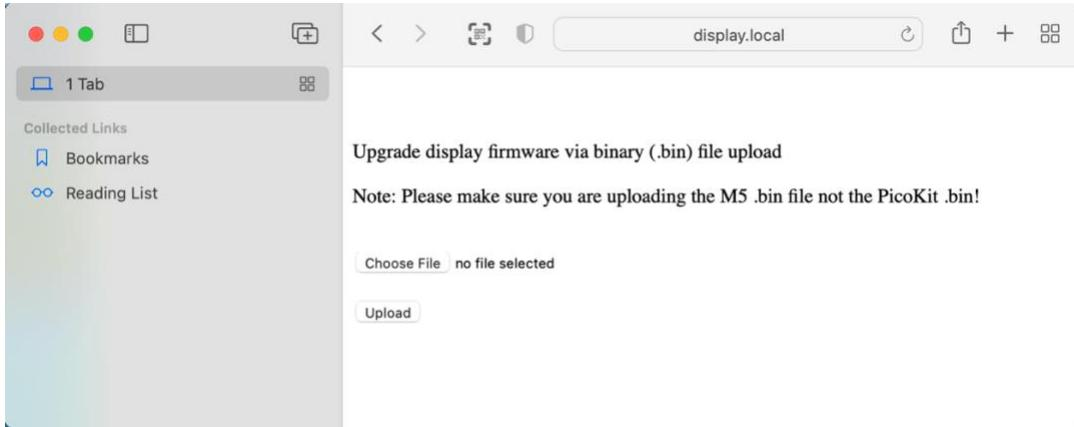
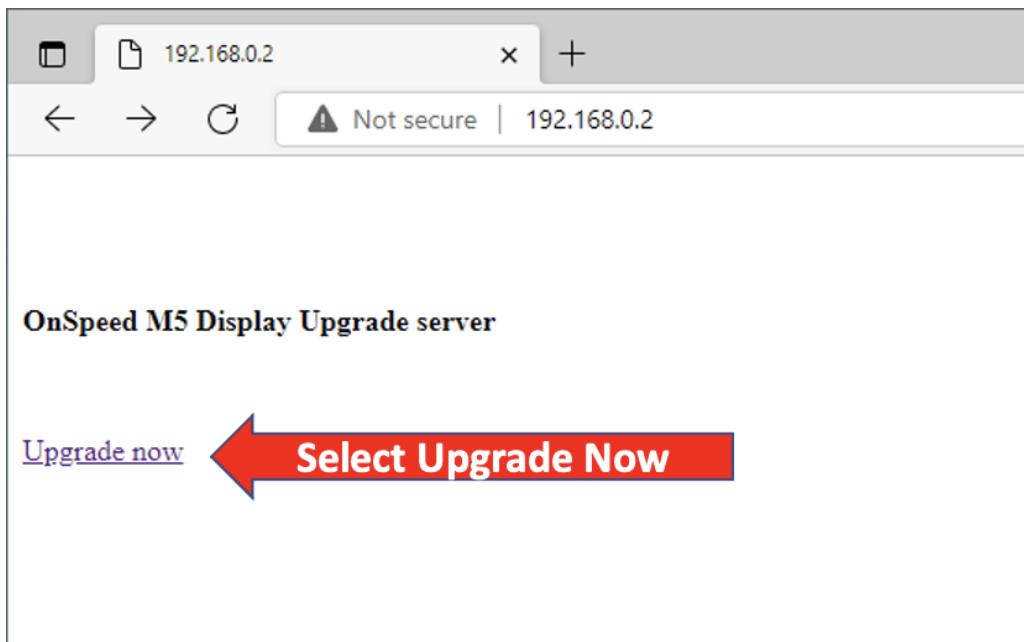
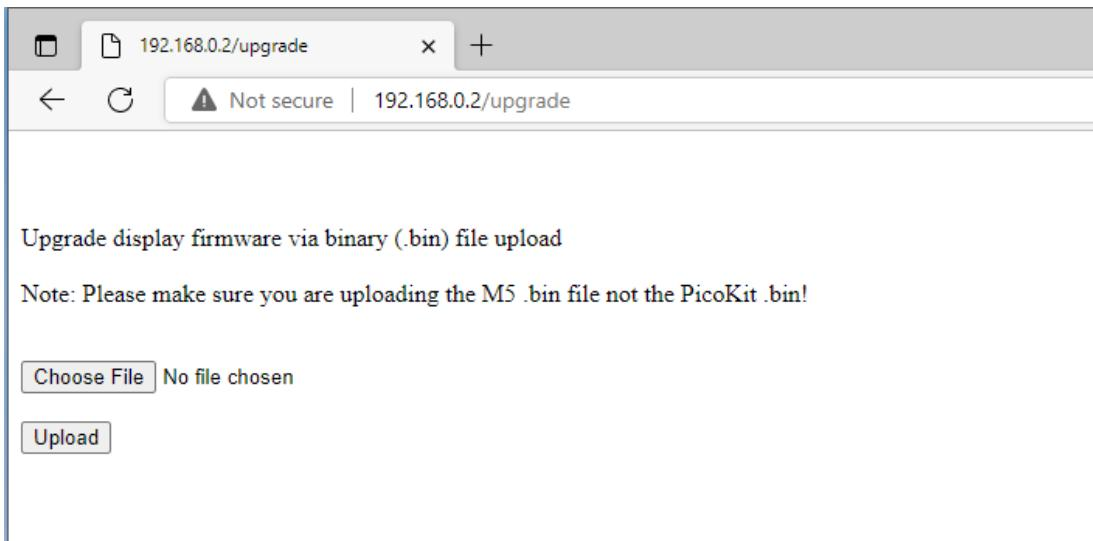

Figure 52. M5 Simplified WiFi Gateway used for firmware upgrade (Mac).
Figure 53. Page 1 of the M5 Simplified WiFi gateway used for firmware upgrade (Windows File Explorer). Select Upgrade now to open page 2.
Figure 54. Page 2 of the Windows M5 simplified WiFi gateway (Windows File Explorer).
**in the address line.** A simple window will open on the browser. Figure 52 shows the gateway window on a Mac. On a Windows computer, when the first widow opens (Figure 53), select UPDATE NOW and a second window will open (Figure 54) that looks just like the Mac version in Figure 52.